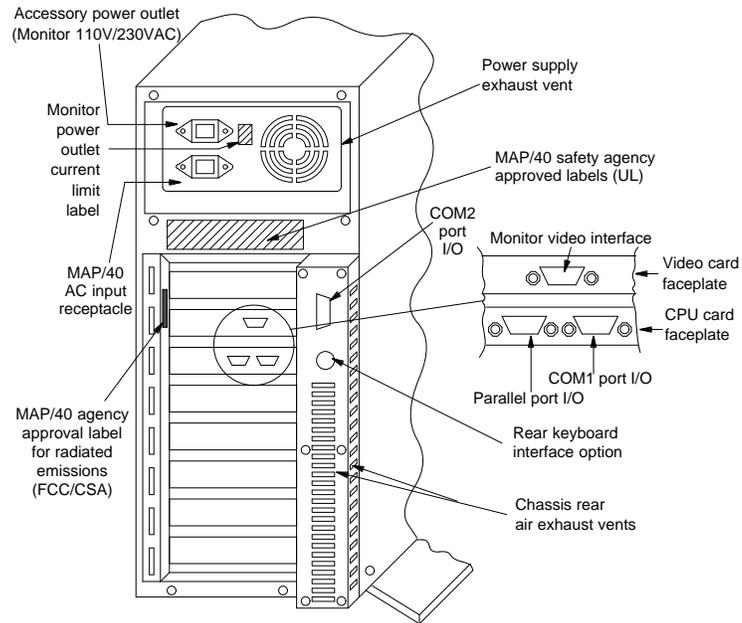

Figure 2-8. Back View of the MAP/40
Table 2-3 describes the components on the back of the MAP/40 chassis. Figure 2-8 shows the back view of the MAP/40..
5. Plug the female end of the cable into the monitor and the male end into the rear of the MAP/40 (see Figure 2-8 on page 2-17).
1. Plug one end of the MAP/40 power cord into the input AC on the rear of the chassis (Figure 2-8 on page 2-17).